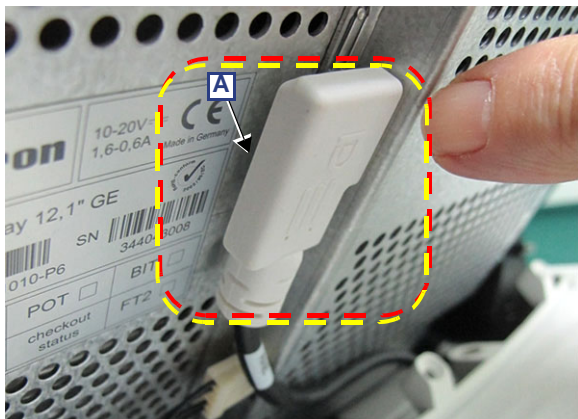

Figure 8-41 Disconnecting the Touch Screen Cables (1st version of Touch Panel)
- DP-to-Touch Screen, see: [A] in Figure 8-41 and Figure 8-42.
- Power-to-Touch Screen, see: [B] in Figure 8-41 and Figure 8-42.